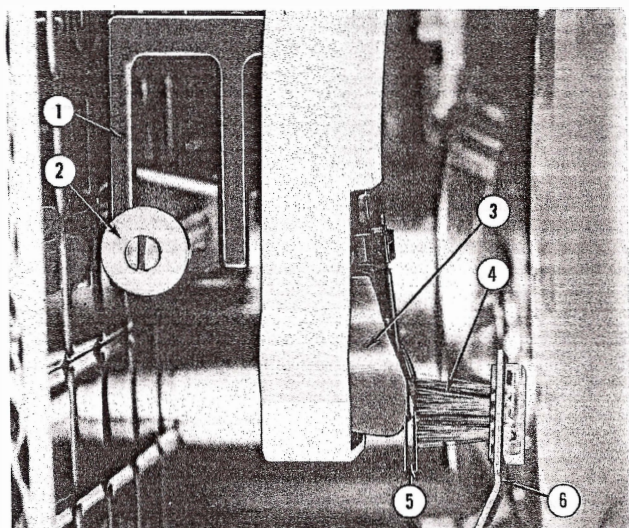
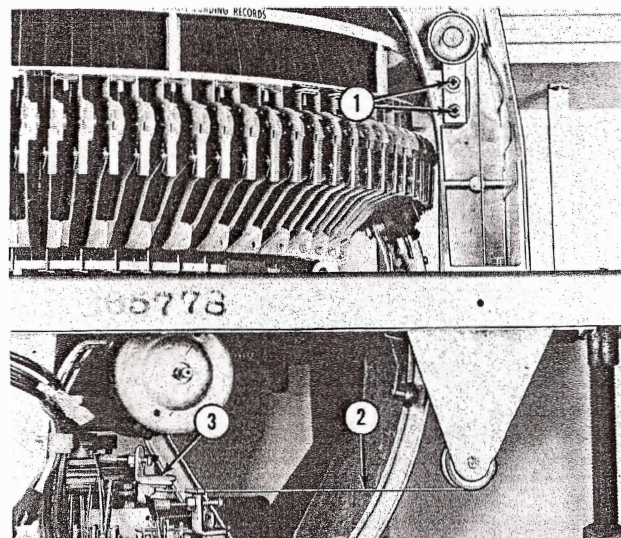

Fig. 82. TONE ARM NEEDLE BRUSH ADJUSTMENT
Fig. 83. TONE ARM BRUSH SETTING
(6) The tone arm needle brush adjustment should be accomplished with the phonograph in its normal at rest position. The needle brush (Fig. 82, Item 4) should be 1/4" to 1/2" below the cartridge. The dimension may be varied by loosening the mounting screws (Fig. 83, Item 1) and moving the idler wheel. The needle brush is actuated by the action of the transfer switch causing the brush to sweep across the tip of the stylus. The tip of the stylus should project into the brush a depth of 1/32" (Fig. 82, Item 5). The brush mounting bracket may be formed to provide the correct wiping action. Use care in adjusting the wiping action to avoid damage to the cartridge. Removal of the silicone damping grease between the stylus and the cartridge housing will result in poor tone quality.